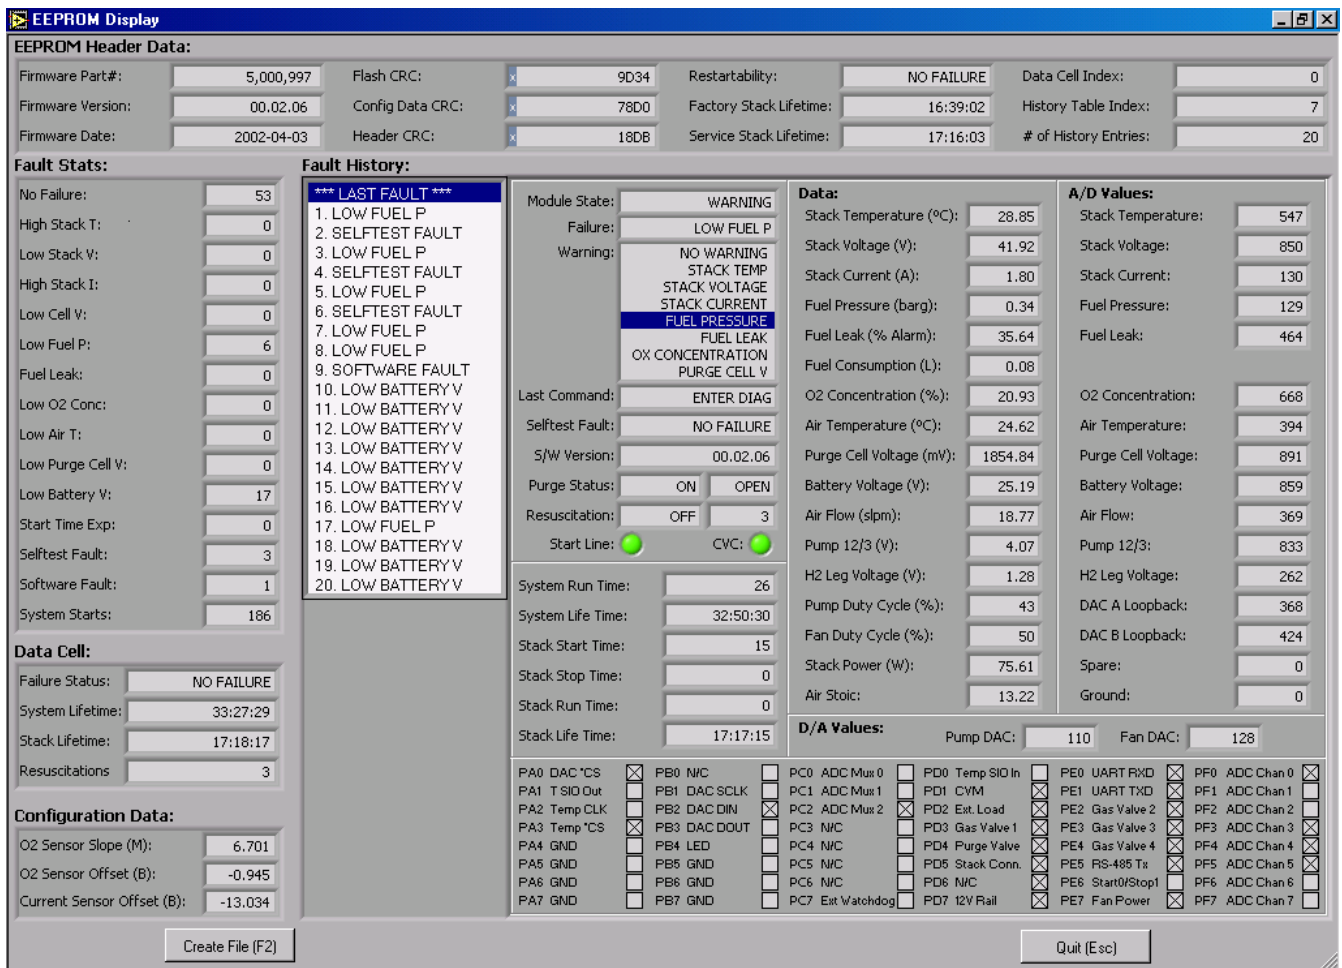

Figure 17: Sample of Last Fault Data Screen
4. Press on the Read **EEPROM** button (F9) on the main screen. The last fault data screen appears, as shown in Figure 17.